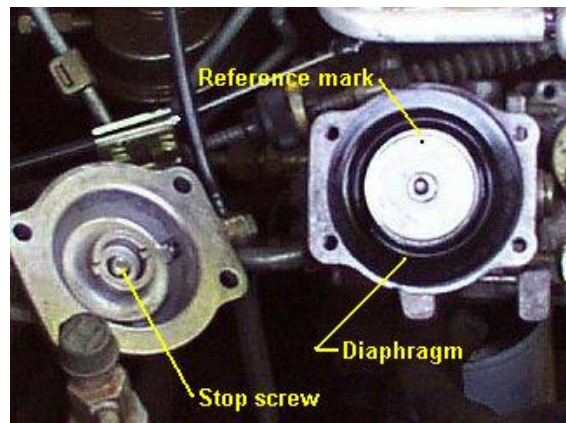

Figure 4
3. The diaphragm/cone rest position, adjusted using the Torx **stop screw** and locknut in the diaphragm cover (See Fig. 4).
- 1.2. As shown in Figure 4, the position of the diaphragm/cone assembly is determined by the 'centre punch' reference mark near the edge of the central steel plate of the diaphragm. **It is essential to note the original position of this reference mark when the diaphragm cover is first removed.**
- 1.4. For the following description, the position of the diaphragm is described in terms of degrees of rotation from the 'maximum' position. This is defined as that which orients the control cone to its 'most rearward' position. That is, the position which allows the stroke limit pin to travel most rearward. Therefore the 'maximum' position corresponds to the **maximum fuel position**. In the case of my assembly this coincided with the reference mark being at the 'twelve o'clock' position (to the top/high/tappet cover side, as shown in Figure 4 above). I do not know if this is always the case.
Stage 2A: Remove the four slotted pan-head screws securing the diaphragm top cover and lift off the cover (see Figure 4). Take care not to kink or damage the boost pressure signal tube. Next, **locate and record the position of the diaphragm reference mark** in terms of (approx.) degrees CW or CCW from the 12 o'clock (top) position. For example, my original position was about 100° CCW (or between 8 and 9 o'clock, if you prefer).